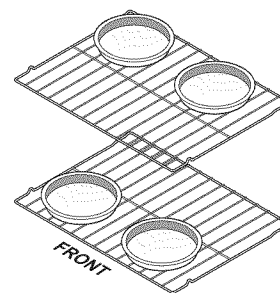

Figure 4: Oven rack positions
- When baking using two oven racks, position cookware as shown in Figure 4. Allow at least 2 inches (5 cm) of space between cookware for proper air circulation.